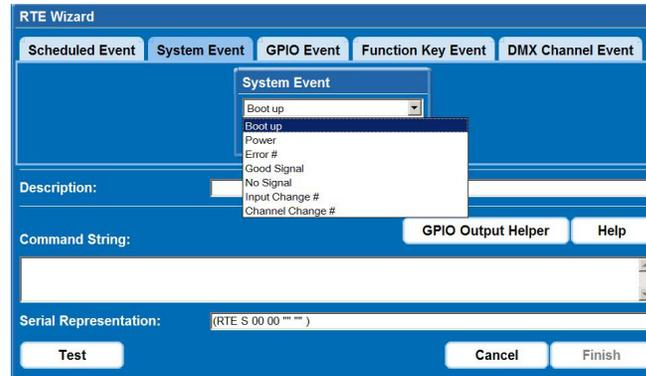

Figure B-16 Add System Event
3. Select a type of event from the **System Event** drop-down list. See Figure B-16.